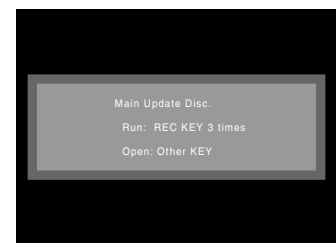

Fig. 3-4-10
- 1) Refer to “3-4-2 Method of starting up firmware update program” and start the firmware update program: Once the firmware update program has started, the screen in Fig. 3-4-10 will appear.